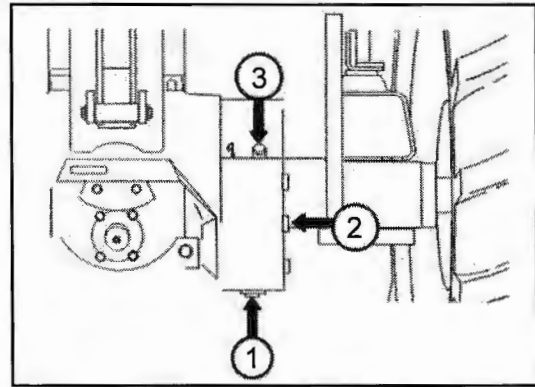

Fig. 33-2 - Final Drive
- Drain the oil by removing two drain plugs (1) on each side and oil level plug (2) on each side.
- Fill through the filler hole (3) until oil comes out of the oil level hole.
- Install the oil level plug. (See Fig. 33-2).